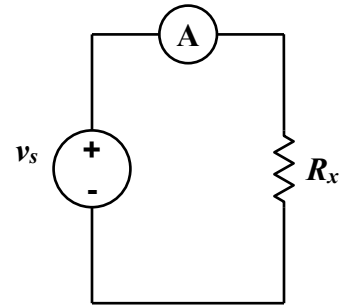

Figure 1.5 DMM as an ammeter.
8. **Turn off** the power supply without changing the voltage level. Reconfigure the circuit as shown in **Figure 1.5**, with the DMM as an **ammeter** (do not forget to change the positive lead of the DMM to the appropriate current port).
12. **Turn off** the power supply. Reconfigure the circuit for current measurements (**Figure 1.5**).